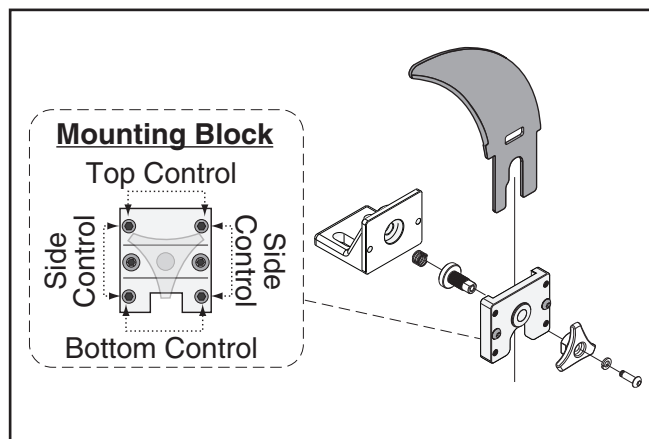

Figure 15. Set screws for adjusting spreader/riving knife position.
Figure 15 shows the set screws associated with controlling the mounting block position.
3. Loosen the two button head cap screws on the mounting block, then adjust the set screws on the block to move it in the necessary direction (see "Mounting Block" inset in **Figure 15**).